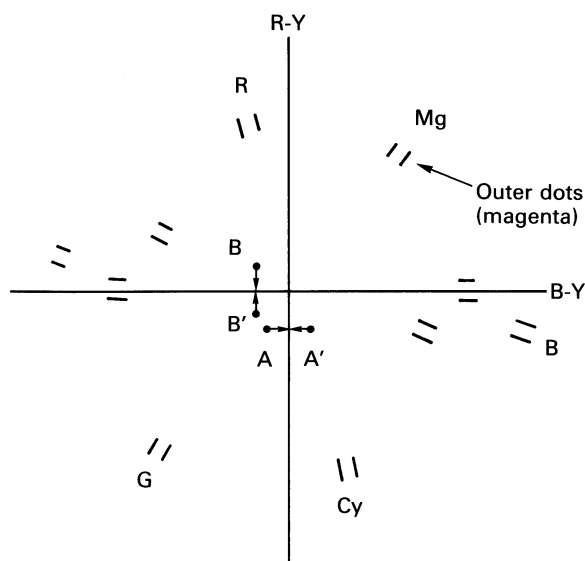

Fig. 6 Vector Pattern of G-card Signal
- 8) Set the oscilloscope to the X-Y mode. Connect TP46 (B-Y OUT) and TP45 (R-Y OUT) to the oscilloscope horizontal and vertical inputs respectively to display a vector pattern on the screen. (Fig. 6)
- 13) Detune L601 so that the movable dots may be shifted and distinguished from the center bright point. (Fig. 6)
- 14) Observing the movable dots, AÁ and BB, adjust SUB-COLOR control VR601 on PCB-MAIN so that the double dots shifted in step 13) may come up to the nearest points of X or Y axis, (Fig. 6).